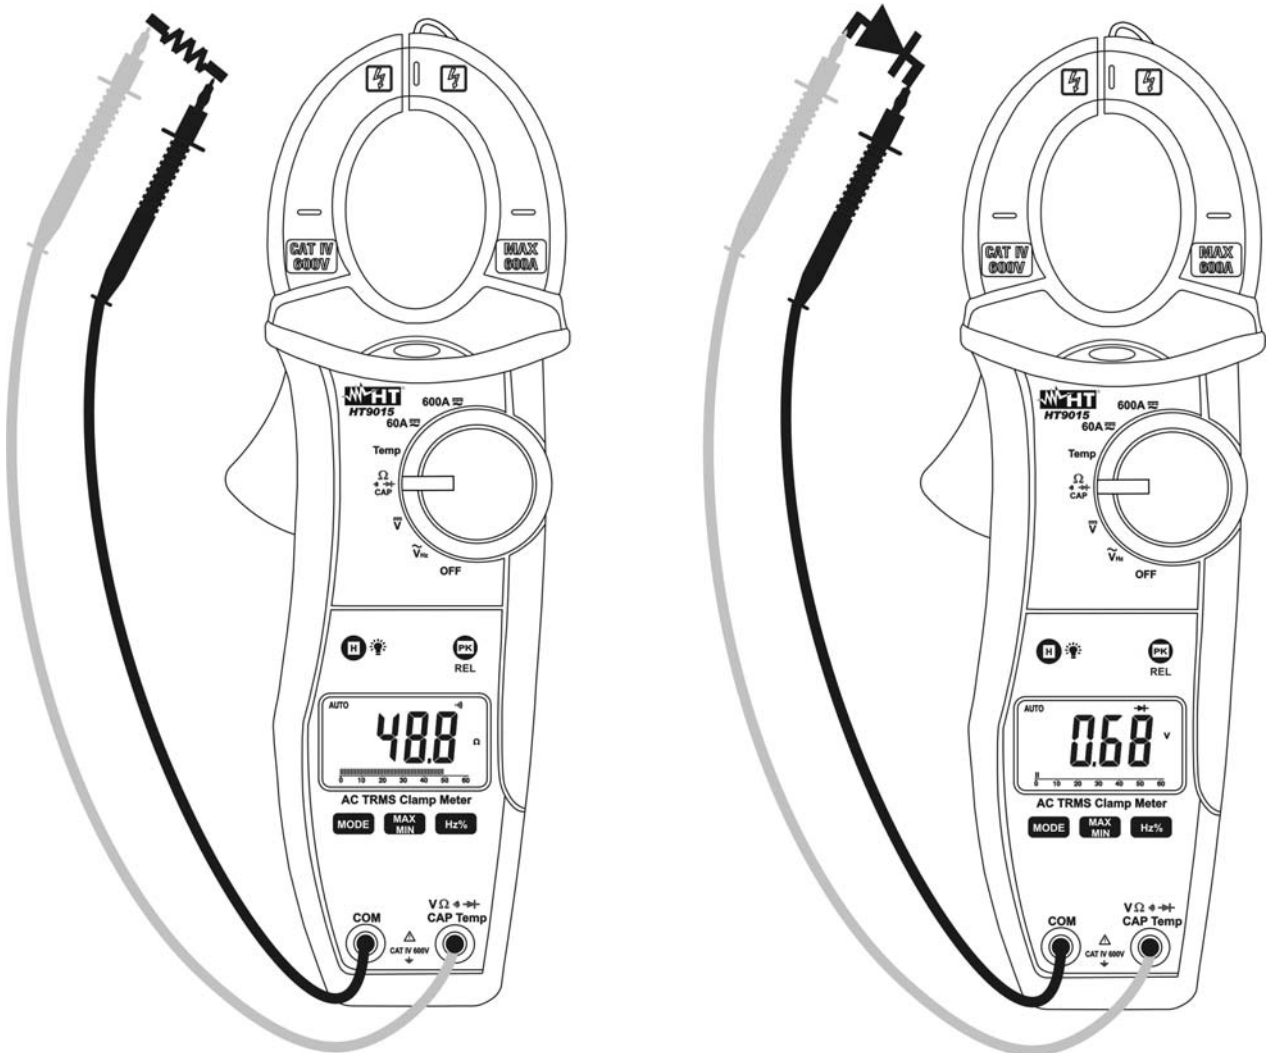

Fig. 6: Taking Continuity test and Diode test
3. Insert the red test lead plug into **V $\Omega \rightarrow \text{CAP}$ Hz%**Temp jack and the black test lead plug into **COM** jack and perform continuity test on the object under test (see Fig. 6 – left side). Buzzer emits sound if the measured resistance value is less about 60Ω
5. Connect the red test leads to the anode of diode on test and the black test lead on the cathode ones (see Fig. 6 – right side). Reverse position of test leads to reading reverse polarization voltage